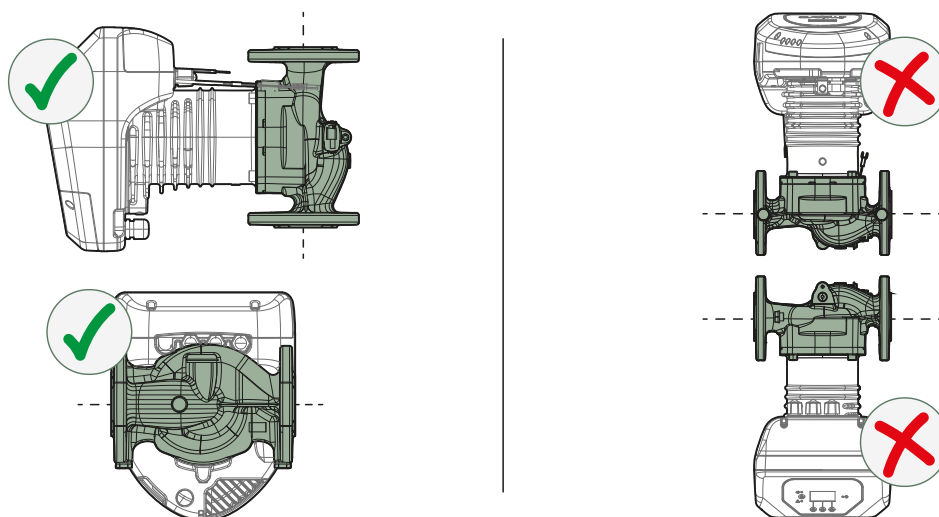

Figure 4
- Always install the circulator with the motor shaft in a horizontal position as shown in Figure 4